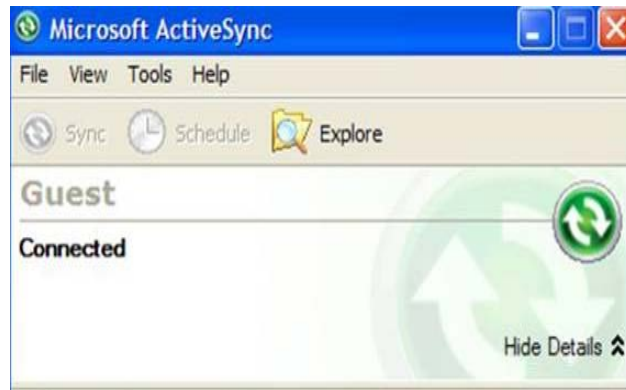

Figure 59. Active Sync Menu
3. Open ActiveSync (or Mobile Device Center) on your PC (Figure 59).